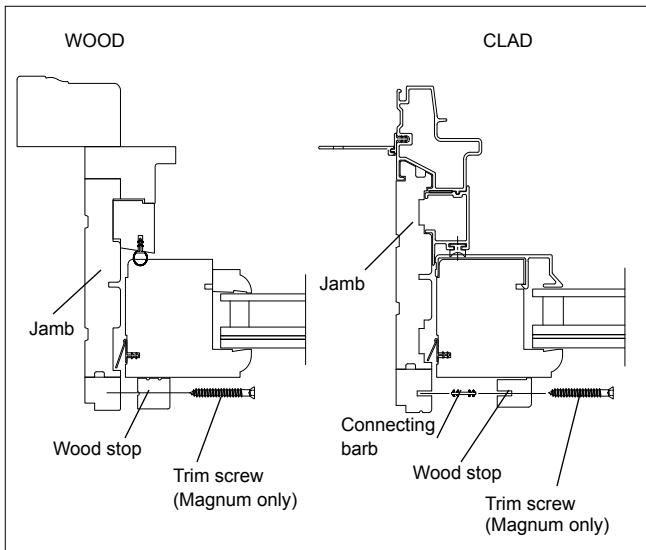

Figure 5
6. After the unit has been secured into the opening, install the supplied wood stops. On UDHMP units, use included trim head screws. See figure 5. WUDHP stops are installed with 1 1/8" (29) brad nails spaced 6" (152) from each end and 6" (152) on center.